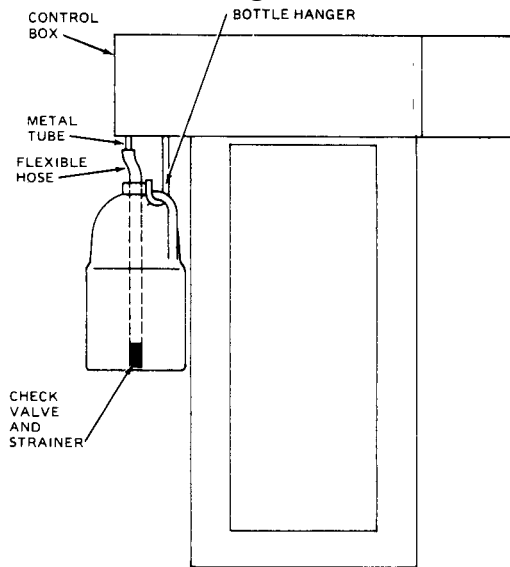

FIGURE 9 – CONNECTING DETERGENT BOTTLE TO THE CONTROL BOX
1. Insert the plastic hose (supplied) over the metal tube. See Fig. 9. Fasten the hose with a clamp.
Check all electrical connections to make certain they are correct and complete. Refer to the hookup diagrams (Figures 9 through 13).